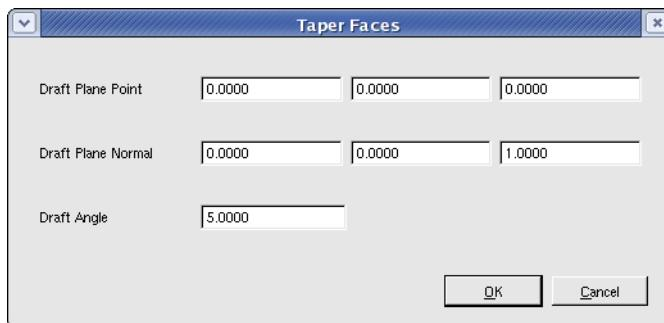

Figure 35 Taper Faces dialog box
5. Enter the draft plane center, the draft plane normal, and the draft angle in the Taper Faces dialog box (see Figure 35).